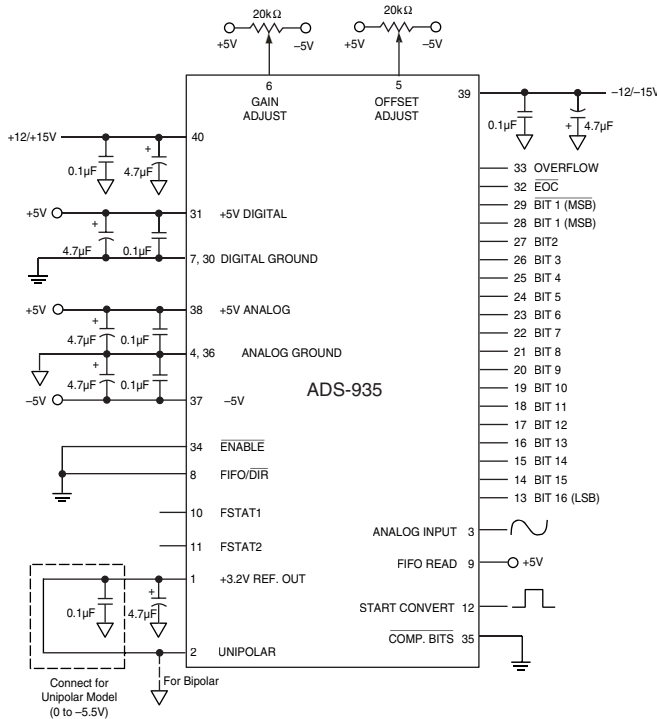

Figure 2. Connection Diagram
- The ADS-935 achieves its specified accuracies without the need for external calibration. If required, the device's small initial offset and gain errors can be reduced to zero using the adjustment circuitry shown in Figure 2. When using this circuitry, or any similar offset and gain calibration hardware, make adjustments following warm-up. To avoid interaction, always adjust offset before gain. Tie pins 5 and 6 to ANALOG GROUND (pin 4) if not using offset and gain adjust circuits.
Connect the converter per Figure 2. Any offset/gain calibration procedures should not be implemented until the device is fully warmed up. To avoid interaction, adjust offset before gain. The ranges of adjustment for the circuits in Figure 2 are guaranteed to compensate for the ADS-935's initial accuracy errors and may not be able to compensate for additional system errors.